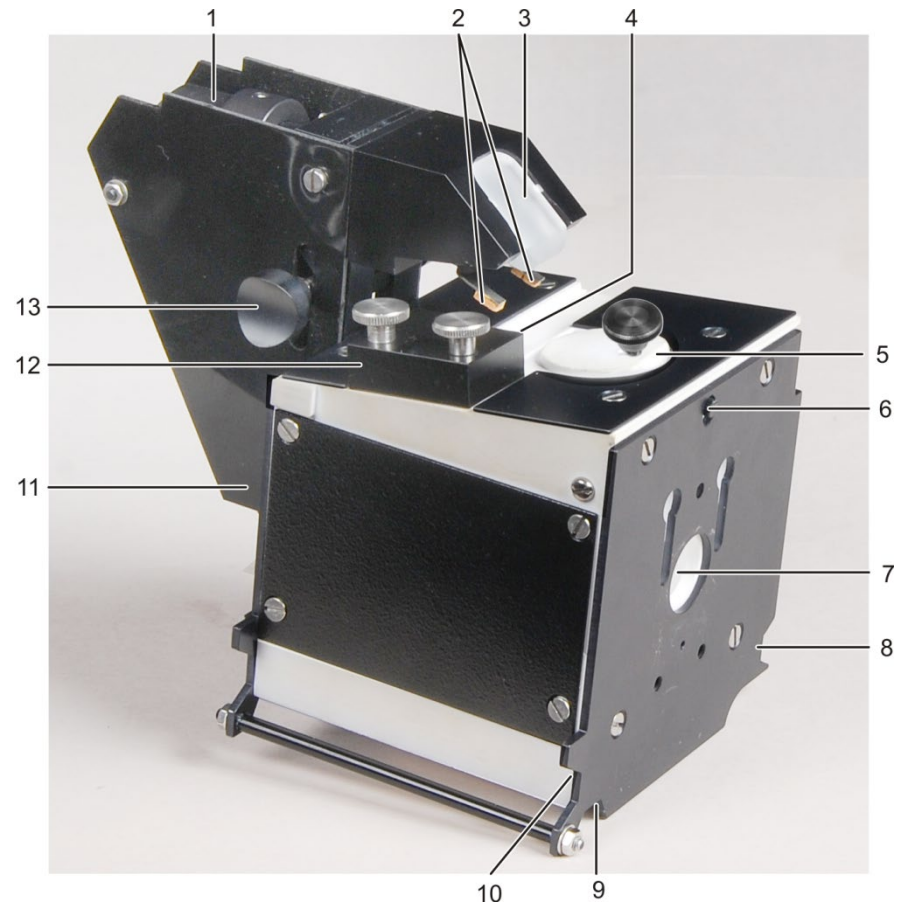

Fig. 99 Layout of the integrating sphere – View of the transmittance aperture
5. Insert the Spectralon closure into the aperture of the gloss trap. Bring the insert into the correct position by positioning it at the guide pin (6 in Fig. 99).
6. If required by the sample type unscrew the limit stop (12 in Fig. 99) and the knurled handle at the Spectralon insert (5 in Fig. 99).
- Remove the dowel pin (6 in Fig. 99) and pull the Spectralon insert (5 in Fig. 99) by the knurled handle out of the aperture.